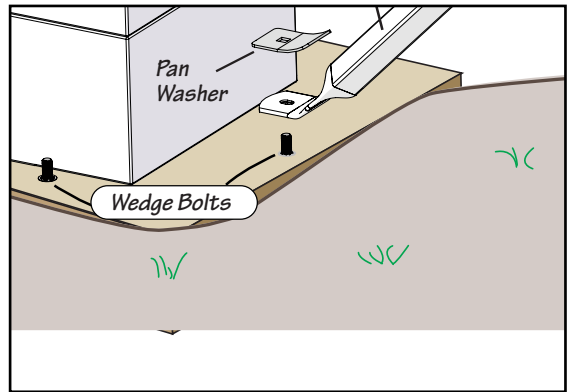

Fig. 4-1
- Slide a pan washer over the wedge bolt, install a flange nut over the wedge bolt as show right in Fig. 4-1